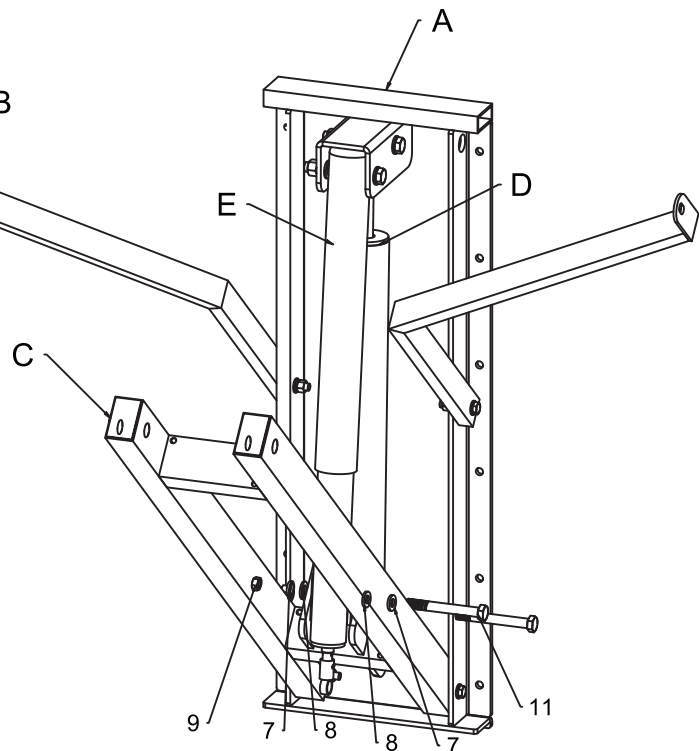

FIG 3
- Attach Spring Assist (D) to Wall Frame (A) and Lower Extension Arm (C) using two sets of #11, #7, #8, #8, #7, #9, as show in FIG 3
- Attach Height Actuator (E) to Wall Frame (A) and Lower Extension Arm (C) using two sets of #11, #7, #8, #8, #7, #9, as show in FIG 3